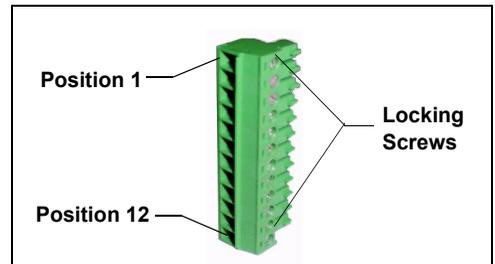

Figure D-6. 12-Position Connector Plug
1. Locate two twisted pairs of wires (P/N 043598) and 12-position connector plugs (P/N 923686) (see Figure D-6) in the ICS-2000 and AS50 Ship Kits.